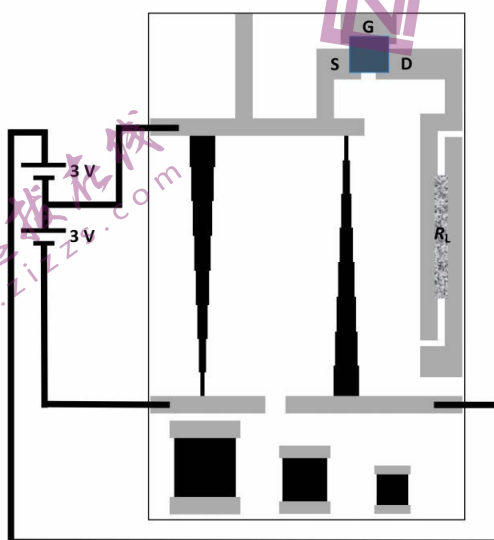

Figure 12. Setup for the inverter/common source amplifier configuration.
In the setup of Figure 11 the transistor is the paper TFT and R_L is a load resistance you are going to add now, manually, by connecting the Drain contact of the transistor with the V_{in} contact using a pencil track, as indicated in Figure 12. While you write, you are actually depositing thin layers of conductive graphite on the paper so the more layers you draw on top of each other, the lower the resistance will get. While drawing R_L make sure to continuously monitor its resistance. To pull V_{out} as close to 0 V as possible the load resistance should be large enough. So, while drawing the resistance, aim for a value close to the target value $R_L = 200\text{ k}\Omega$.
Use the included HB pencil and draw by hand a carbon resistor with value of $R_L \approx 200 \text{ k}\Omega$ to be used as a load resistor of the paper TFT to build the inverter circuit (see Figure 12).
D.1 Write down in the Answer Sheet the measured R_L value you have reached. Setup the inverter circuit (Figure 12) using the carbon track resistor and the paper TFT. Before the measurement, remember that you should turn the transistor fully off by applying $V_{GS} = -3 \text{ V}$ and wait for $\sim 1 \text{ min}$. Then measure V_{out} as you sweep V_{GS} from -3 V to 0 V and take readings of V_{out} with a stabilization time for each point up to a maximum of 100 s . Enter the measured values in the Answer Sheet. 0.5pt